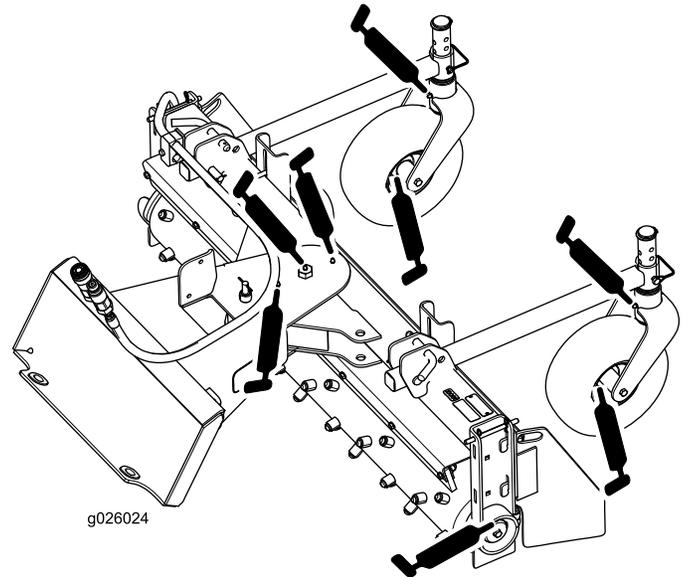
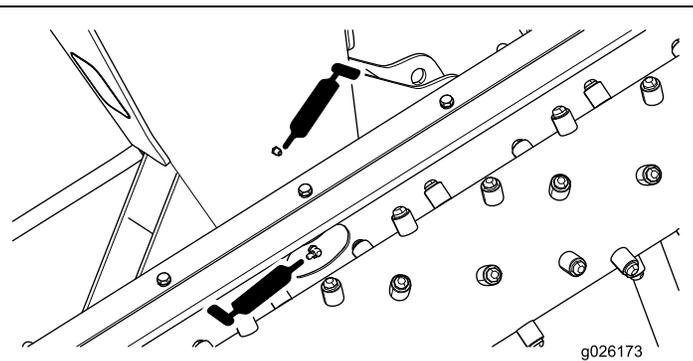

Figure 11
Figure 12
4. Apply the necessary amount of grease to the grease fittings (Figure 11 and Figure 12).